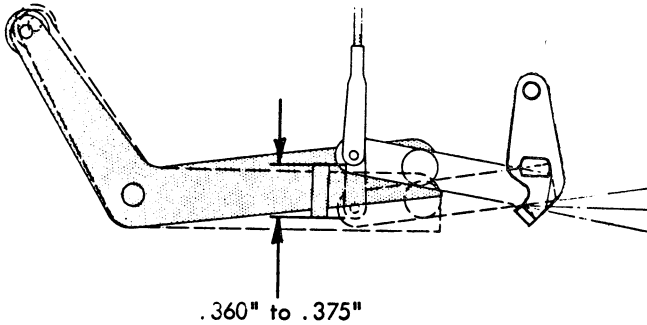

FIGURE 216. Multiplying Lever Stop (Late Style)
2. **Multiplying Lever Stop - (Fig. 216)** - Adjust the multiplying lever stop front or rear to produce .360" to .375" (approximately 3/8") motion to the index link when the carrier return/index cam is operated to its high point (platen removed).